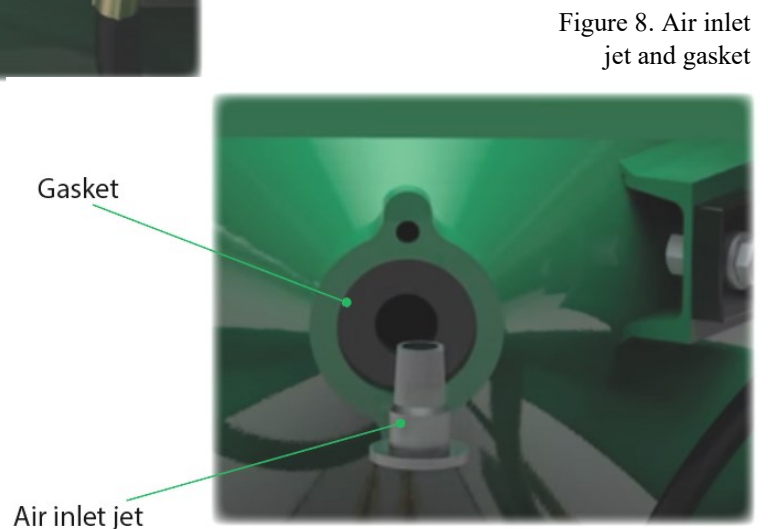

Figure 8. Air inlet jet and gasket
3. Remove the air inlet jet and gasket. See Figure 8 on page 25.
3. Remove the air inlet jet and gasket. See Figure 8 below.